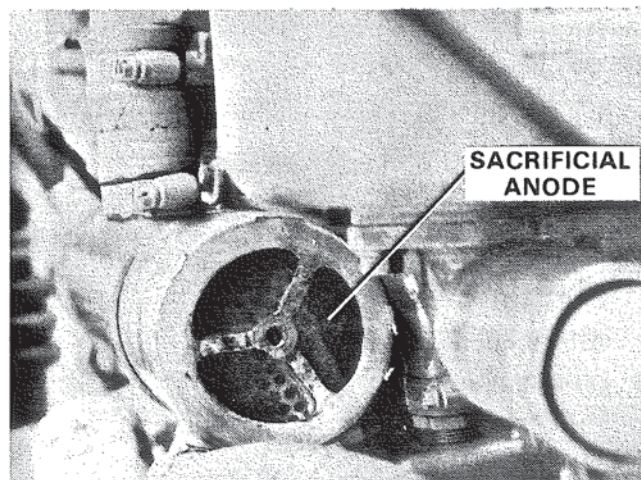

Figure 27. Inspecting Sacrificial Anode.
3. Inspect sacrificial anode. Figure 27. Tap with hammer to break loose corrosion. Replace if eroded.